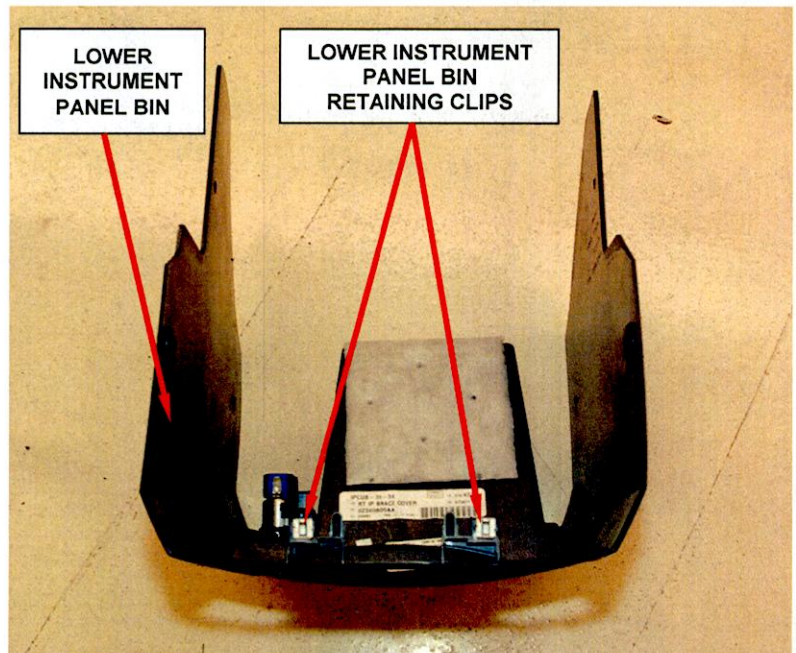

Figure 2 – Lower Instrument Panel Retaining Clip Location
4. Disengage the two retaining clips located on the front of the lower instrument panel bin (Figure 2).